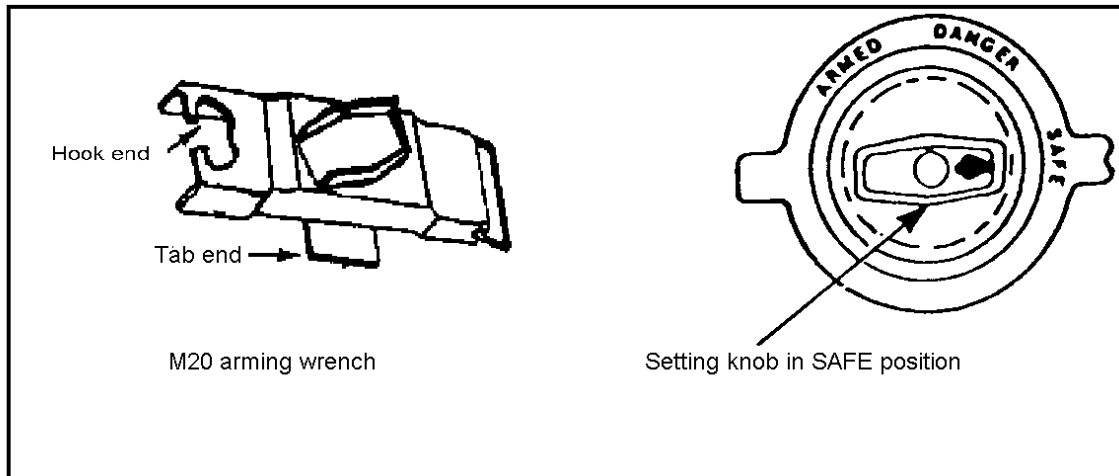

Figure 051-192-1108-1
- d. Use the M20 arming wrench to turn the setting knob to the SAFE (S) position (Figure 051-192-1108-1).